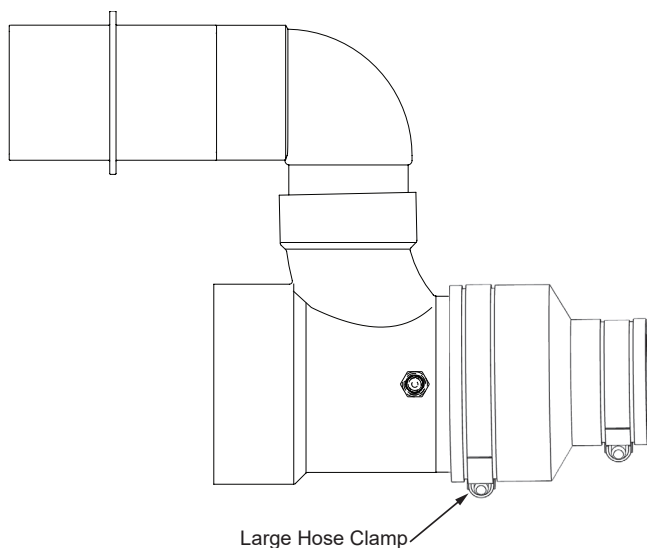

Figure 29. Intake Air Tee Fitting - Side View
3. Loosen the large hose clamp on the Fernco coupling that connects the intake-air connection pipe to the combustion blower. See **Figure 29** (page 35).